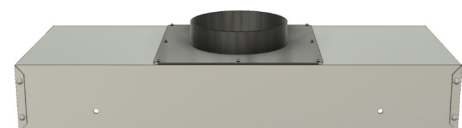

Figure 4
- Align the Vent Out Adapter with the screw holes on the top of the Hood Unit and tighten all screws. **(Figure 4)**